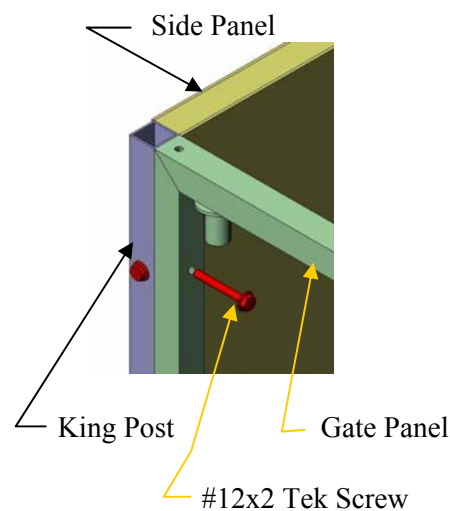

Figure 16
2. Attach the Gate Panel to the King Post using 2" Self-Drilling Tek Screws through the pre-drilled holes. Make sure that Gate Panel and King Post are flush up against each other (**Figure 16**).